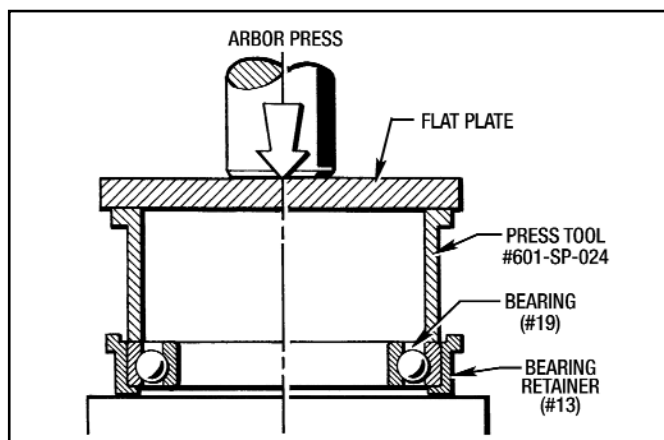

Figure 7.1 - Installing Bearing (#19) into Bearing Retainer (#13)
2. Press the Ball Bearing (#19) into the Bearing Retainer (#13) with an arbor press as shown in *Figure 7.1*. Use the small end of Tool #601-SP-024 and press until the bearing is seated in the retainer.